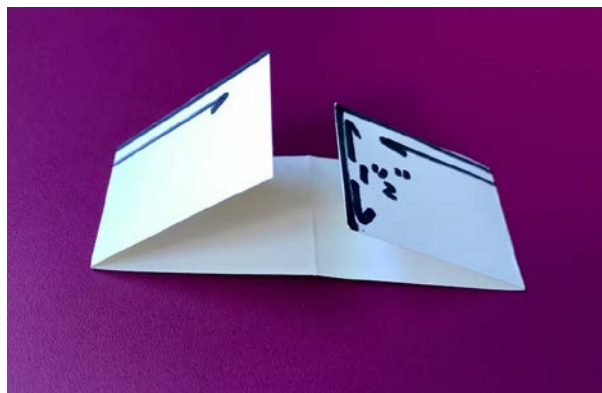

Figure 6. Fold both ends up to the middle
7. Open and then fold either side in half again so that both edges come up to the crease. See Figure 6.